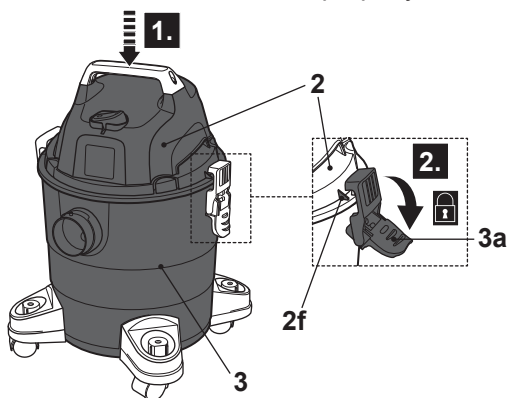

Fig. 8
- > Place the motor unit (2) with dust filter (14) onto the tank (3) and secure it with the clasps (3a) and clasps grooves (2f) (Fig. 8). Ensure the motor unit sits properly on the tank and the connection is properly sealed.